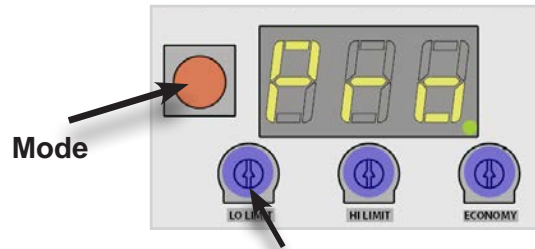

Figure 33. Advanced Programming
1. Turn the Advanced Programming dial to access the Program Mode – indicated in the display as Pro (See Figure 33)
4. When finished, turn the Advance Programming dial back to OFF or turn the HI LIMIT dial to the next setting (3) to adjust the next feature (See 8.B.2).